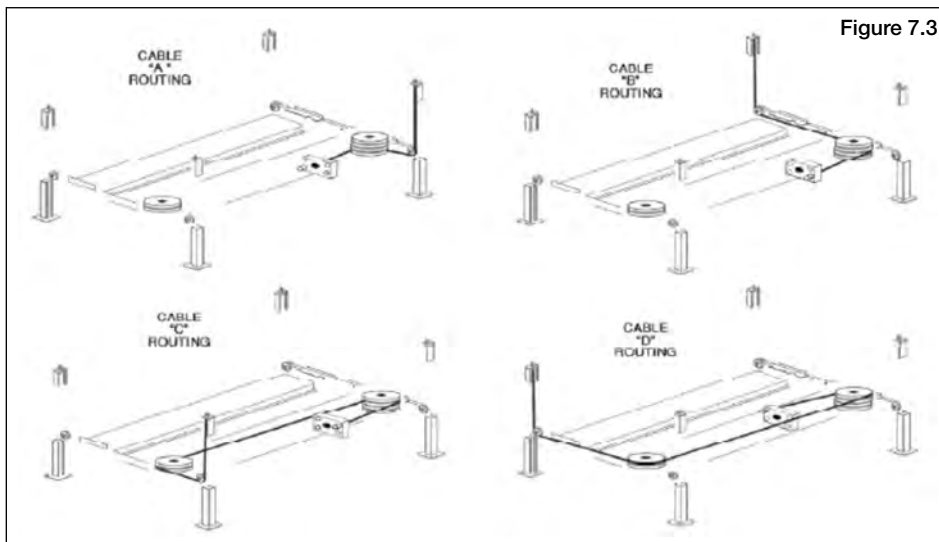

Figure 7.3
HELPFUL TIP Install the sheaves and cables in the order as shown above starting from the **SHORTEST (A)** to the **LONGEST (D)**. (See Fig 7.3 and Fig. 7.4)